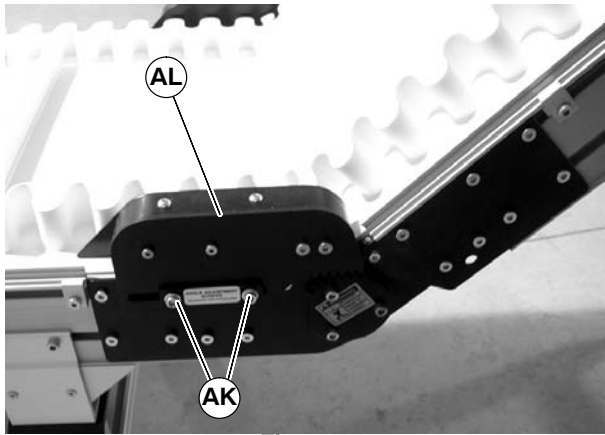

Figure 31
5. If equipped, install lower knuckle return roller assembly (AK of Figure 31) with screws (AL) on